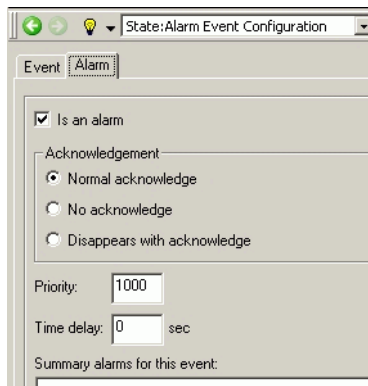

Figure 21. Alarm Tab
2. Select the **Alarm** tab and check the **Is an alarm** check box, Figure 21.